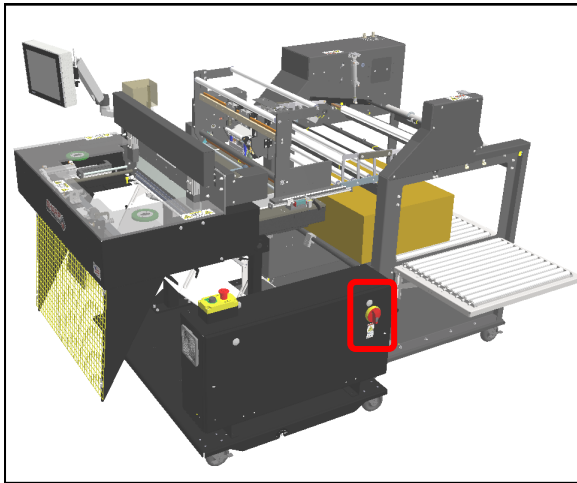

Figure 4-2A. Main Power Switch.
4. Turn the Main Power Switch to ON position. Figure 4-2A.
The **MaxPro Bagger** has a filter/regulator equipped with a male end 1/4" nominal flow NPT air quick disconnect plug (Figure 4-2A). The machine requires 100 PSI (regulated to 80 PSI) of non-lubricated clean dry air at 5